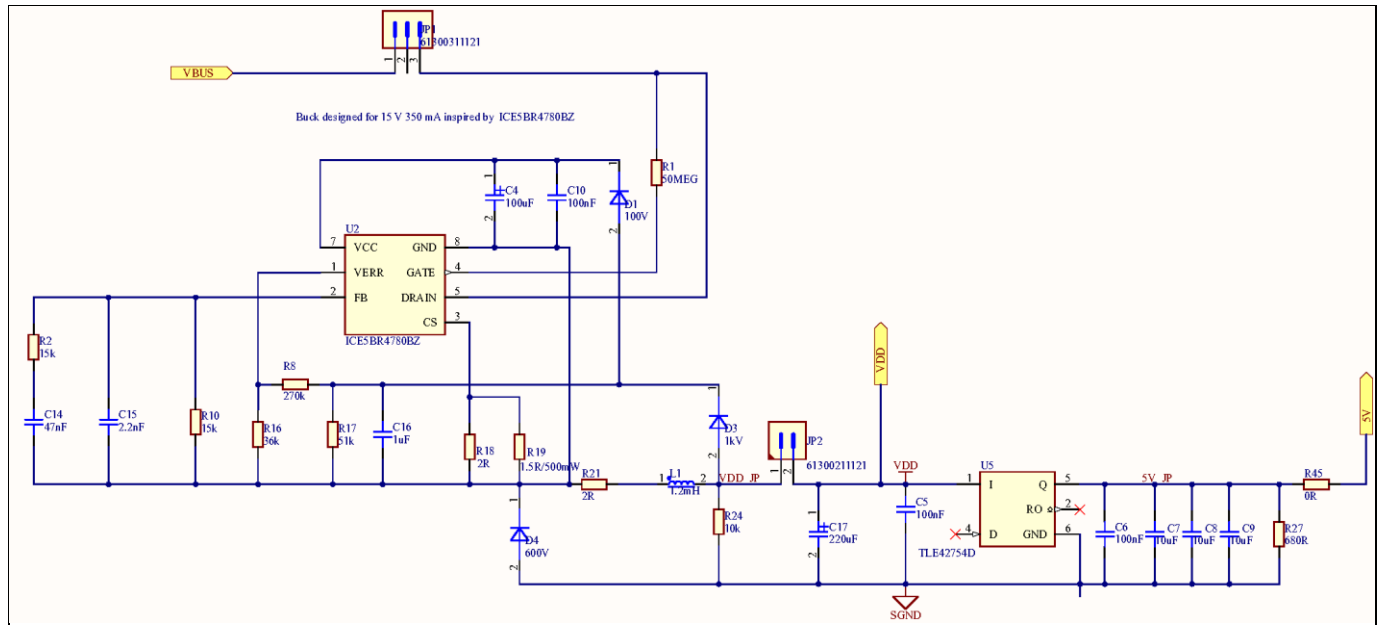

Figure 8 Aux Supplies
2. changing few components on the on board AUX supply circuit. (Figure 8) as described in **Table 7**